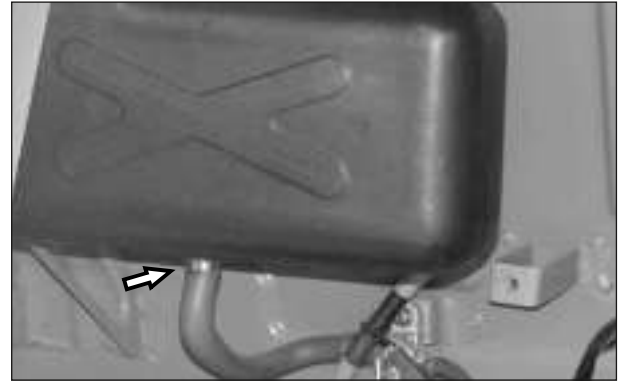

Fig. 4.1
- Remove the hose clip and disconnect the hose fuel tank from the fuel tank. (Fig. 4.1)